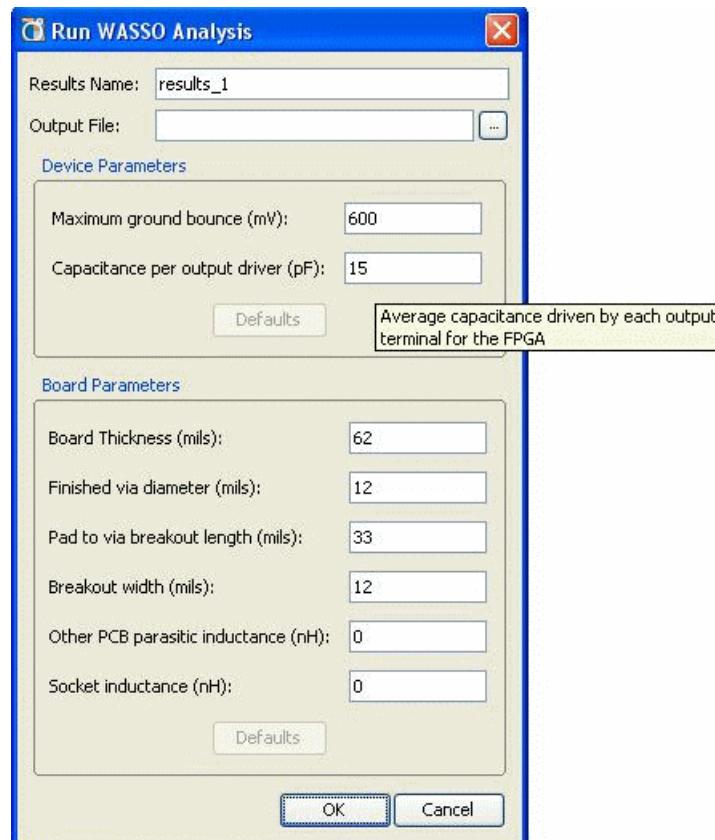

Figure 8-37: Run WASSO Analysis Dialog Box
1. To run a WASSO analysis, select **Run Noise Analysis** from either the Flow Navigator or from the Tools menu. The **Run WASSO Analysis** dialog box opens, as shown in Figure 8-37, page 306.